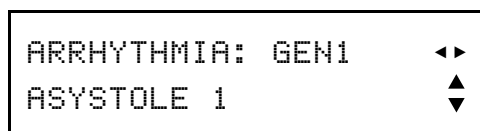

Figure 20- ARRHYTHMIA: "GEN1" Group
Press the ARRY(2) button and the LCD display will change to that of **Figure 20**, the ARRHYTHMIA main menu.
Pressing the RIGHT (▶) arrow button will restore the LCD display to the initial menu screen of **Figure 20**.
Press the ARRY button to return the LCD display to the initial menu screen of **Figure 20**.